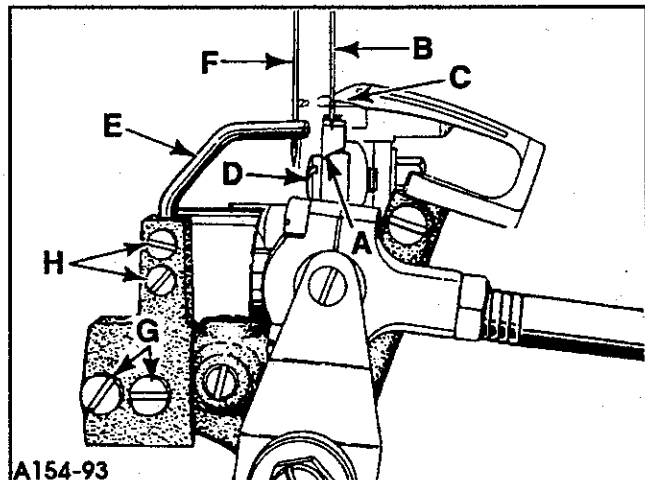

FIG. 15
Set the rear needle guard (A, Fig. 15) height so that when the looper point (C) is even with the right side of the right needle (B), the tip of the needle is approximately  $\frac{3}{64}$ " (1.2mm) below the top of the guarding surface. Set the guard (A) front to back to touch but not deflect the right needle (B). Adjustment can be made by loosening screw (D), reposition guard as required and re-tighten screw.
Front needle guard (E, Fig. 15) must deflect the left needle (F) towards the path of the looper (C) as it moves behind the needle. The looper (C) must not touch the needle (F) at loop taking time, a maximum clearance of 0.002" (0.05mm) is permissible. Forward or rearward adjustments can be made by loosening screws (G), reposition guard as required and re-tighten screws. Height or rotation of guard should be  $\frac{1}{3}$  up from the tip of the needle, this can be acquired by loosening screws (H), reposition as required and re-tighten screws.